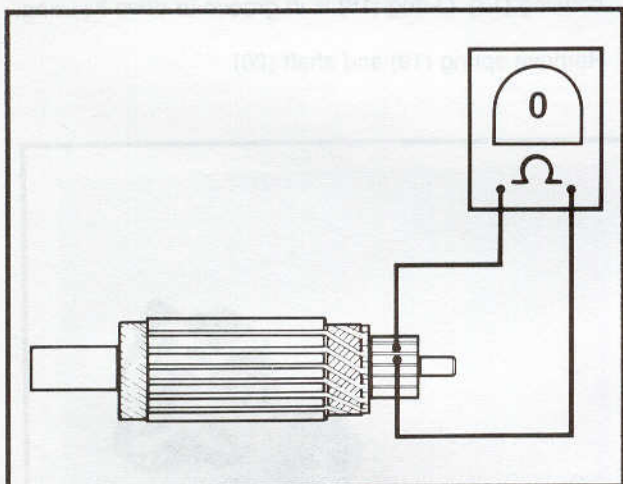

Figure 5-18. Armature Open Test
12. See Figure 5-18. Check for **OPEN** **ARMATURE** with an ohmmeter or continuity tester. Check for continuity between all commutator segments. There should be continuity (0 ohms) at all test points. No continuity at any test point indicates armature is open and should be replaced.